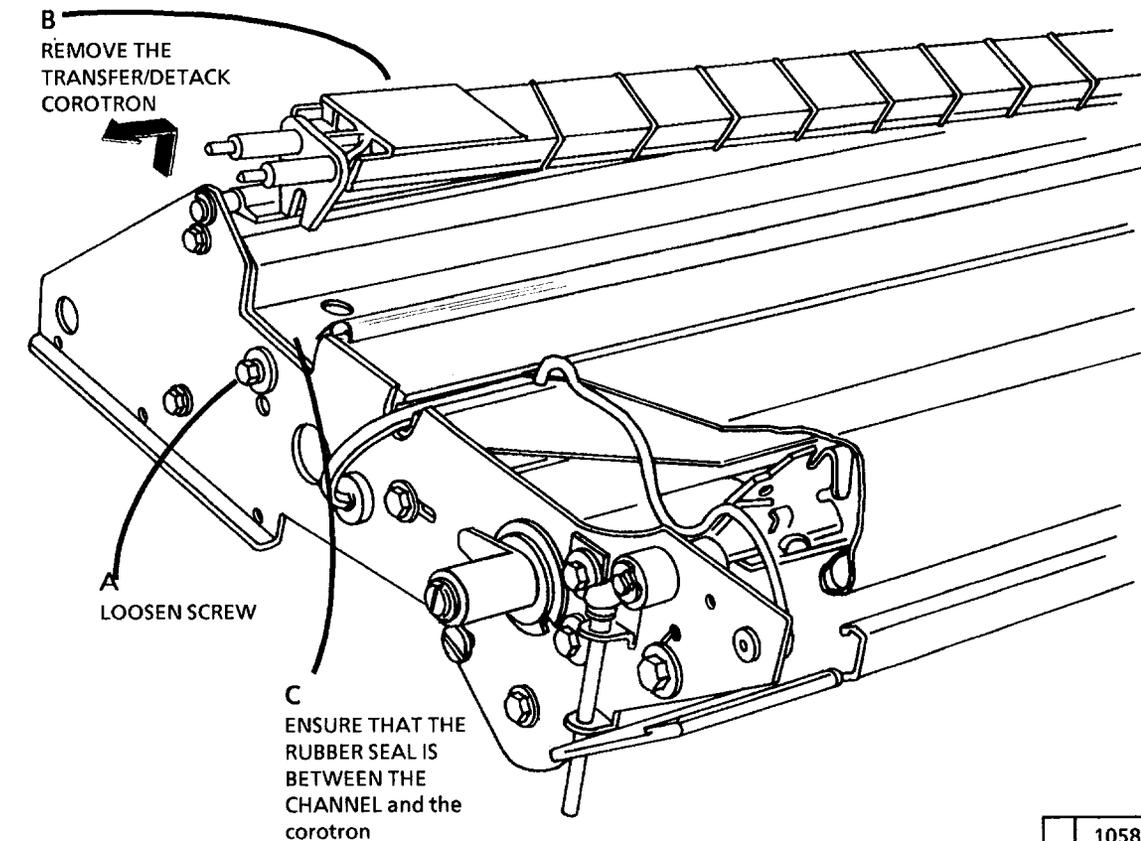

Figure 1. Remove the Transfer/ Detack Corotron
4. (FIGURE 1): REMOVE THE CHARGE/PRECHARGE COROTRON.
2. (FIGURE 1): REMOVE THE TRANSFER/ DETACK COROTRON.